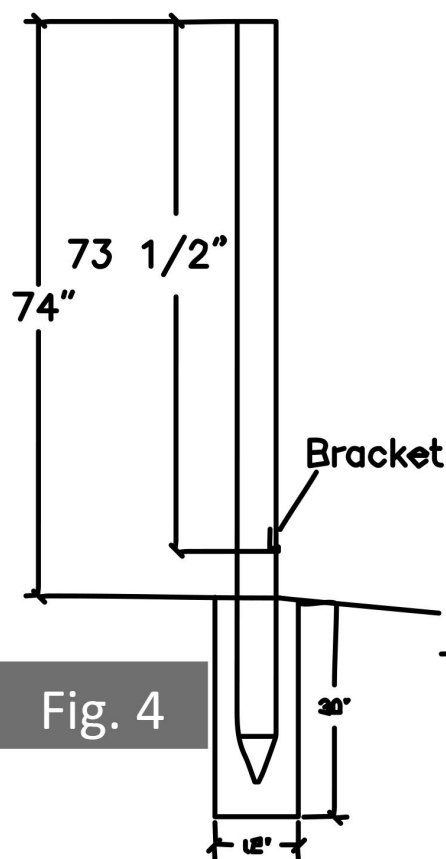

Fig. 4
2. Set the first post on uphill side. Post placement is important! Posts are typically placed at the point where the slope changes (see Fig.4).